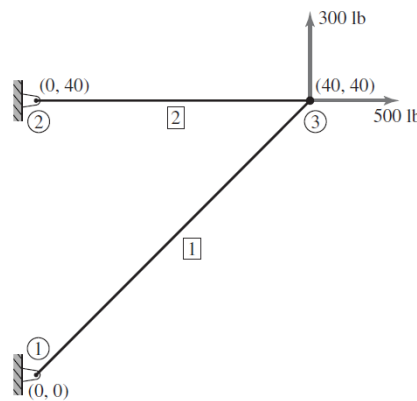

Figure 4
- 2B. The two-element truss in Figure 4 is subjected to external loading as shown. Determine the displacement components of node 3, the reaction force components at nodes 1 and 2, and the element displacements. The elements have modulus of elasticity  $E_1 = E_2 = 10 \times 10^6 \text{ lb/in.}^2$  and cross-sectional areas  $A_1 = A_2 = 1.5 \text{ in.}^2$  (05)